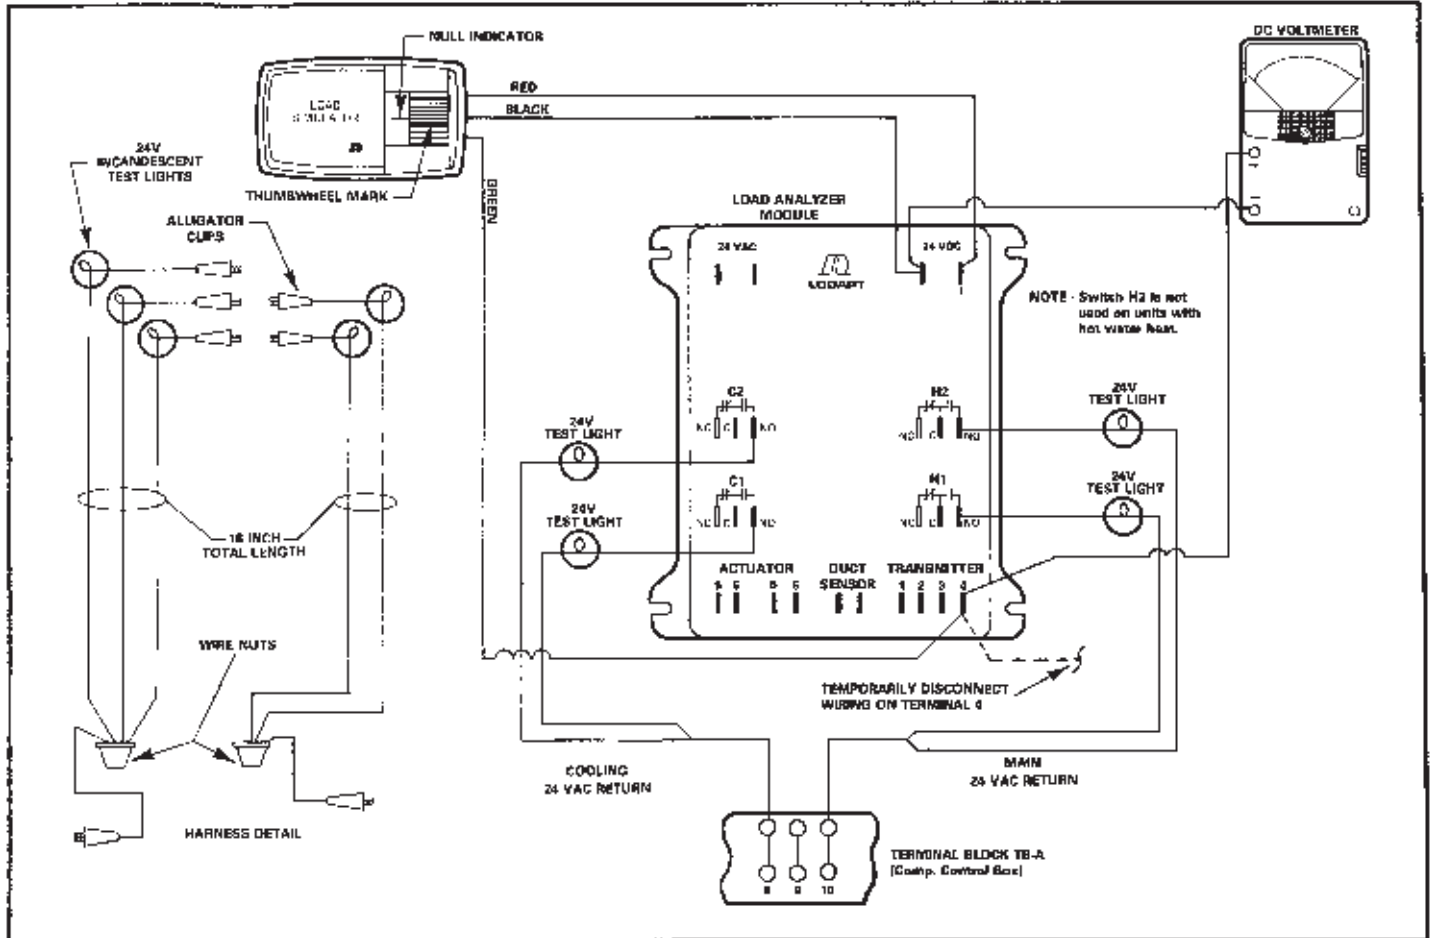

FIGURE 8
- Connect load simulator as shown in Figure 8.
3 - Null the load simulator by aligning thumbwheel mark with null indicator. See Figure 8.
2 - Connect test lights or 24 VAC voltmeter to heating logic relays as shown in Figure 8.
1 - Connect DC voltmeter negative lead to 24 VDC (-) terminal and positive lead to "4" terminal to obtain cooling command signal. Connect test lights to cooling logic relays. See Figure 8.